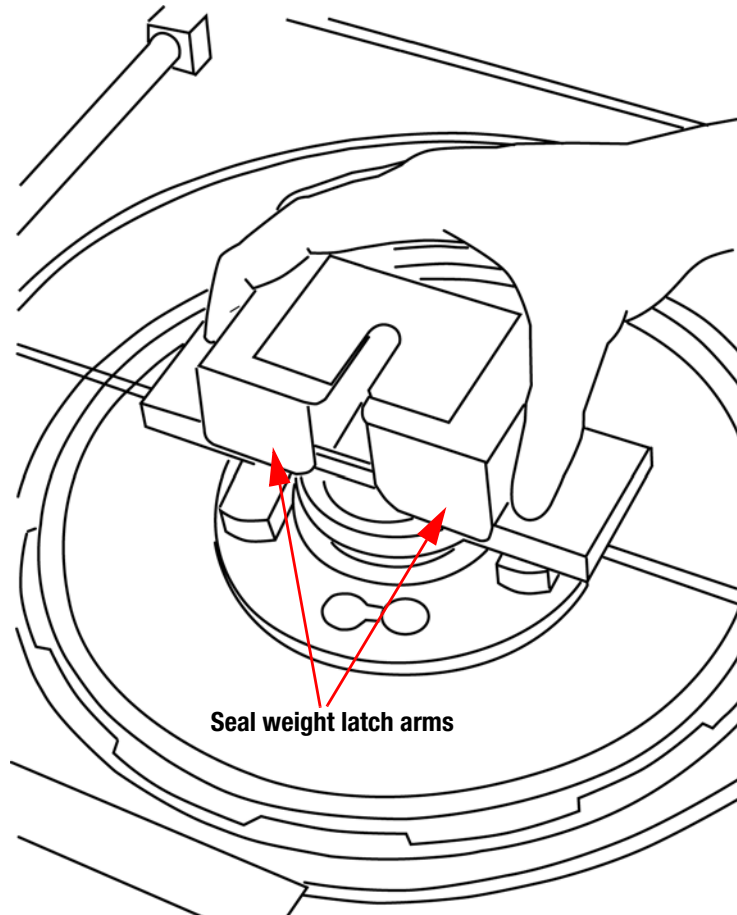

Figure 6-4: Lifting the seal weight
- 17 Lift the seal weight slightly so that the seal weight latch arms clear the sliding covers' plastic blocks (Figure 6-4), and open the sliding covers.